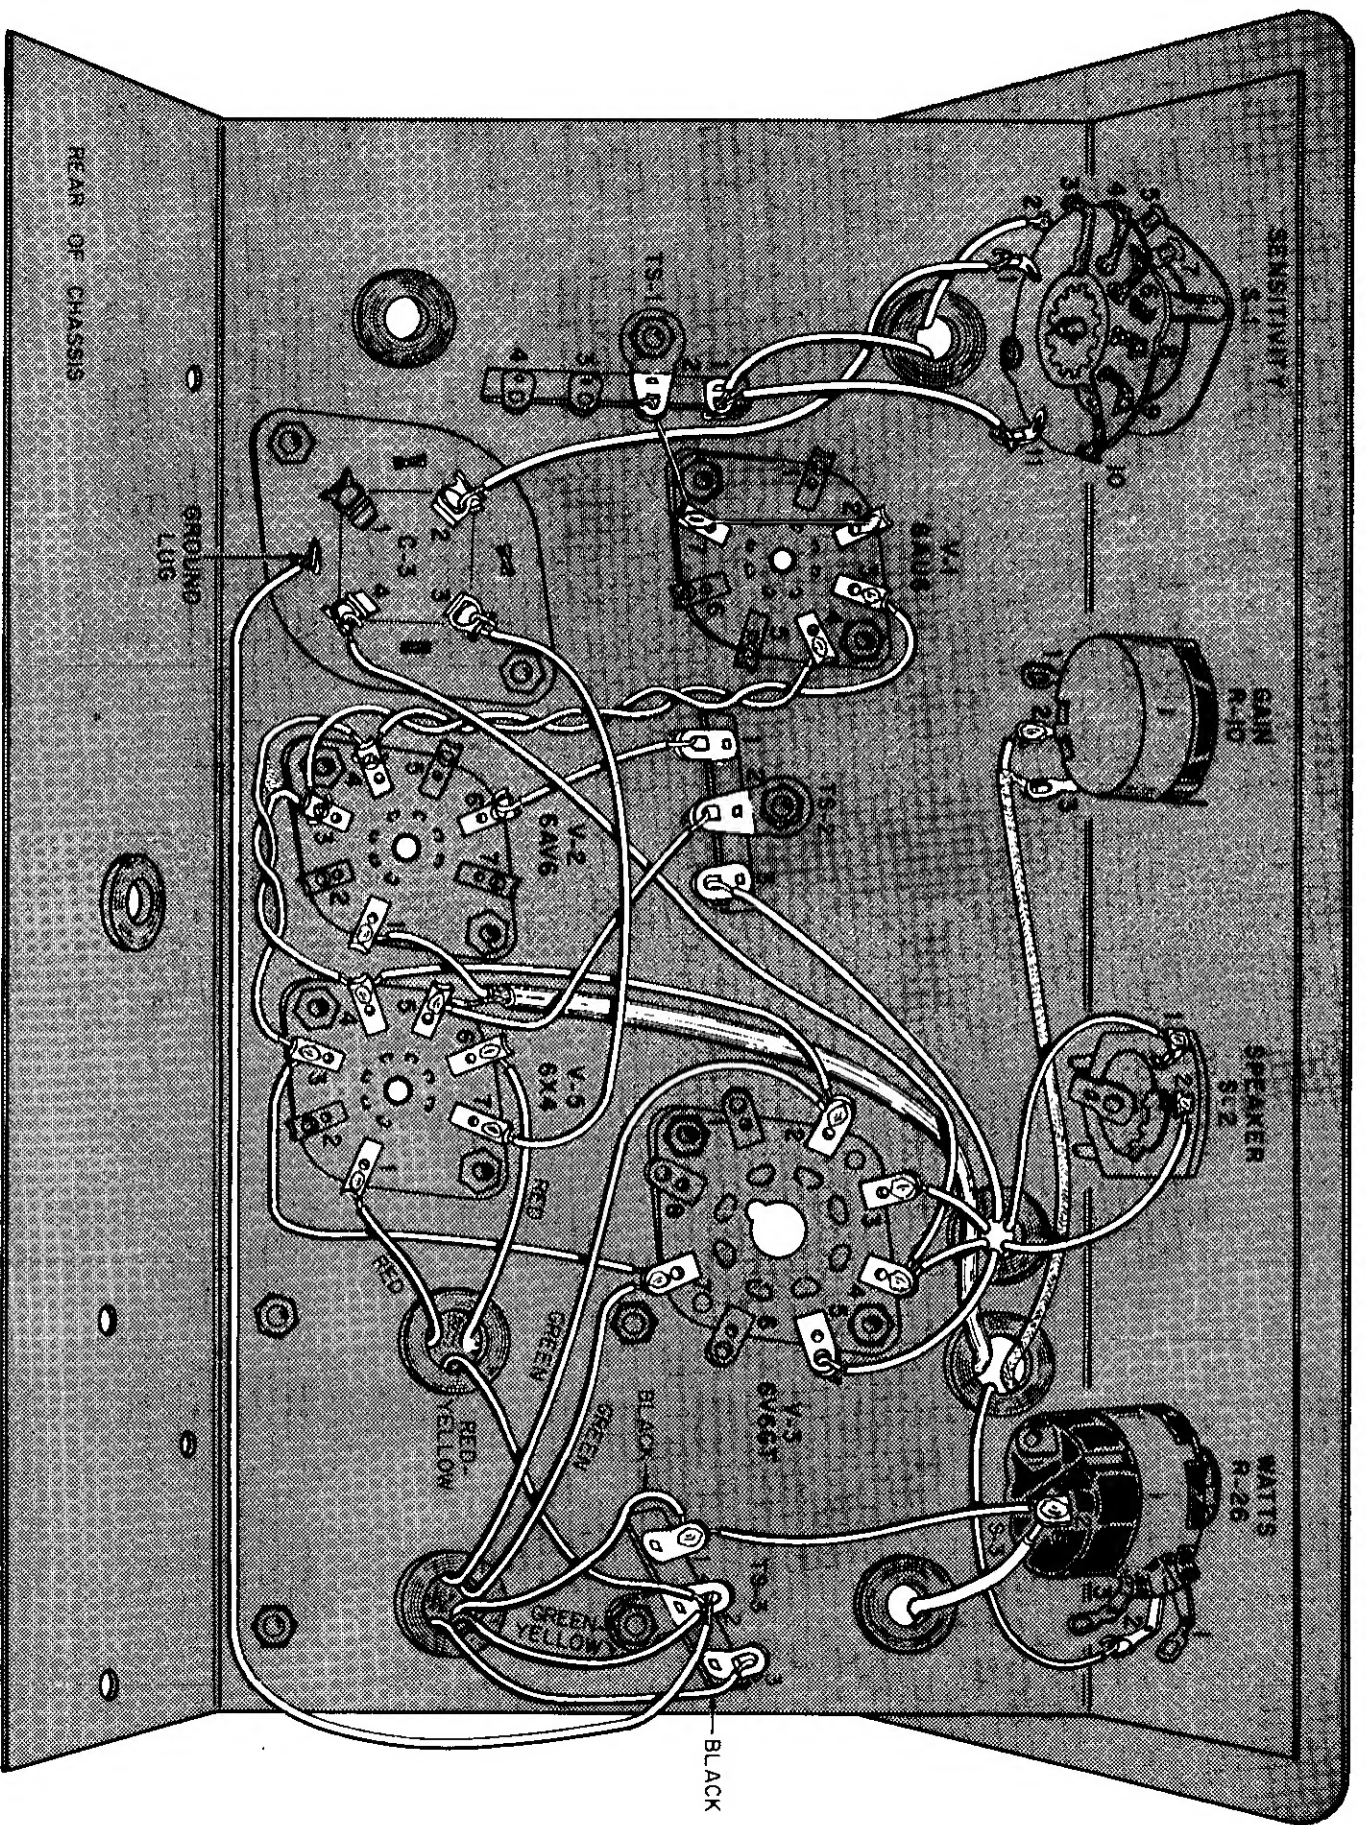

FIGURE 8. FIRST WIRING VIEW INSIDE THE CHASSIS
SEE FIGURE 8.
- (✓) Solder the inner conductor to pin 1 of V-2. Connect but do not solder the shield lead to pin 5 of V-5. Position the lead as shown in Figure 8. Push the other end through the $\frac{1}{2}$ inch grommet located to the left of R-26, the Watts Control. This end will be connected later.
- (✓) Solder the inner conductor to terminal 2 of R-10, the Gain Control. Connect but do not solder the shield lead to terminal 3 of R-10. Position the lead as shown in Figure 8. Push the other end through the same grommet that the previous shielded lead went through. This end will be connected later.